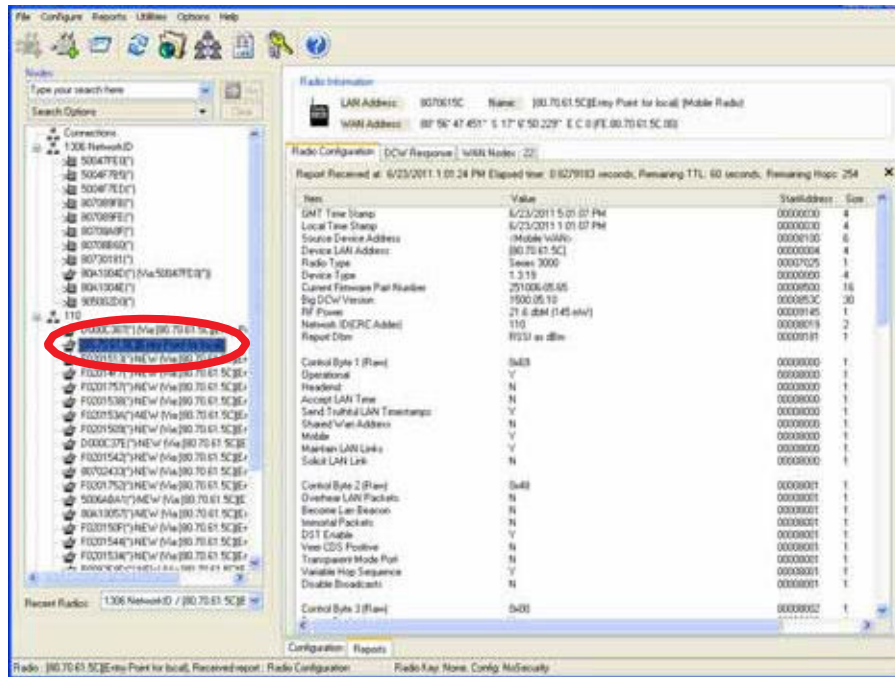

Figure 2 - 8. Gridstream S4SBR's LAN Address Appears in the Nodes Pane
- 5. Highlight the new Gridstream S5 SBR as shown in Figure 2 - 8, and click Reports | Configuration | Radio to verify that you can communicate with the Gridstream S5 SBR.